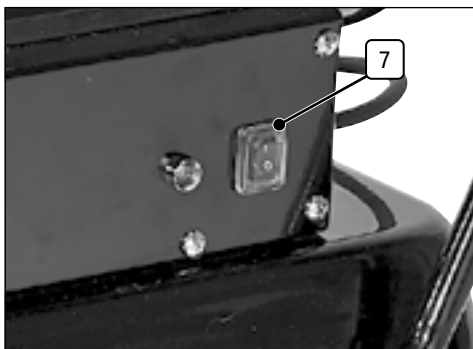

Fig. 3
8.1 Switching the Heater ON (Fig.3)